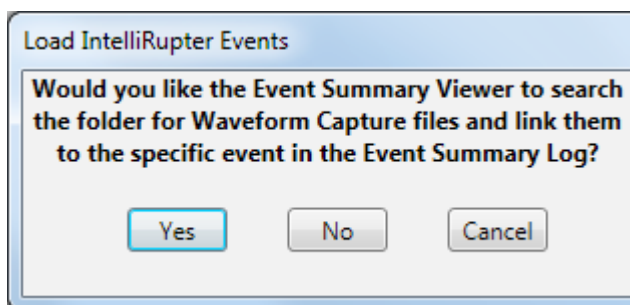

Figure 12. The Load Interrupter Events dialog box.
STEP 6. A screen appears requesting whether the tool shall search for waveform capture files with the .wfc extension. See Figure 12. Click on the **Yes** button if the same folder also includes waveform capture files and you'd like to link them to the Event Summary Log. Otherwise, click on the **No** or **Cancel** buttons.